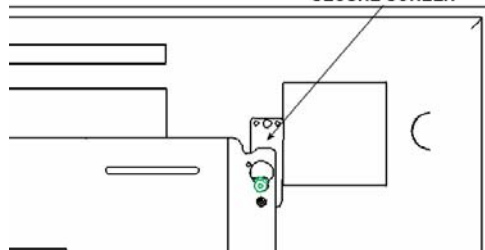

Figure 8
5. Raise safety latch to secure the display (see Figure 8).